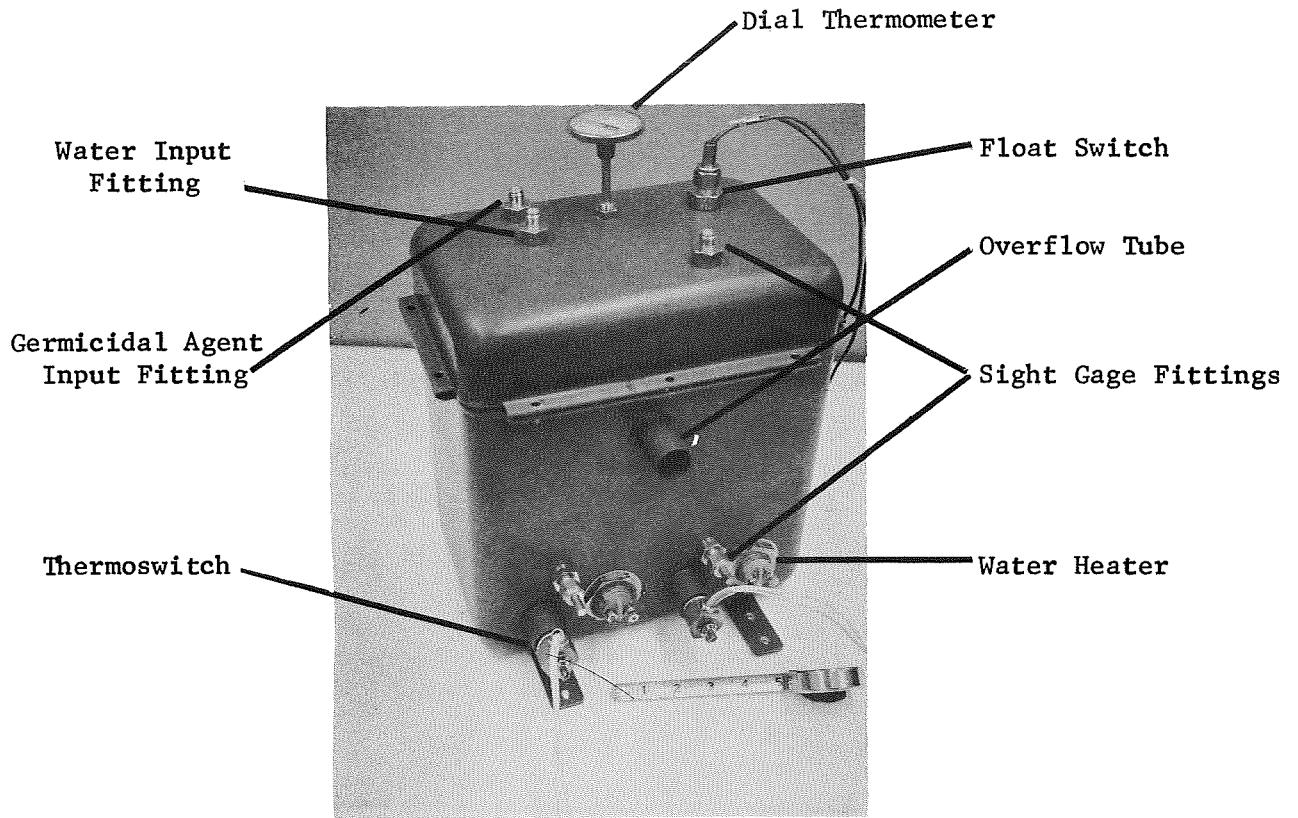

FIGURE 18. WATER TANK
4.10 Thermoswitches (See Figures 18 and 19)
4.11 Water Heaters (See Figures 18, 19, and 20)
4.13 Float Switch (See Figures 18 and 19)
4.14 Dial Thermometer (See Figures 18 and 19)